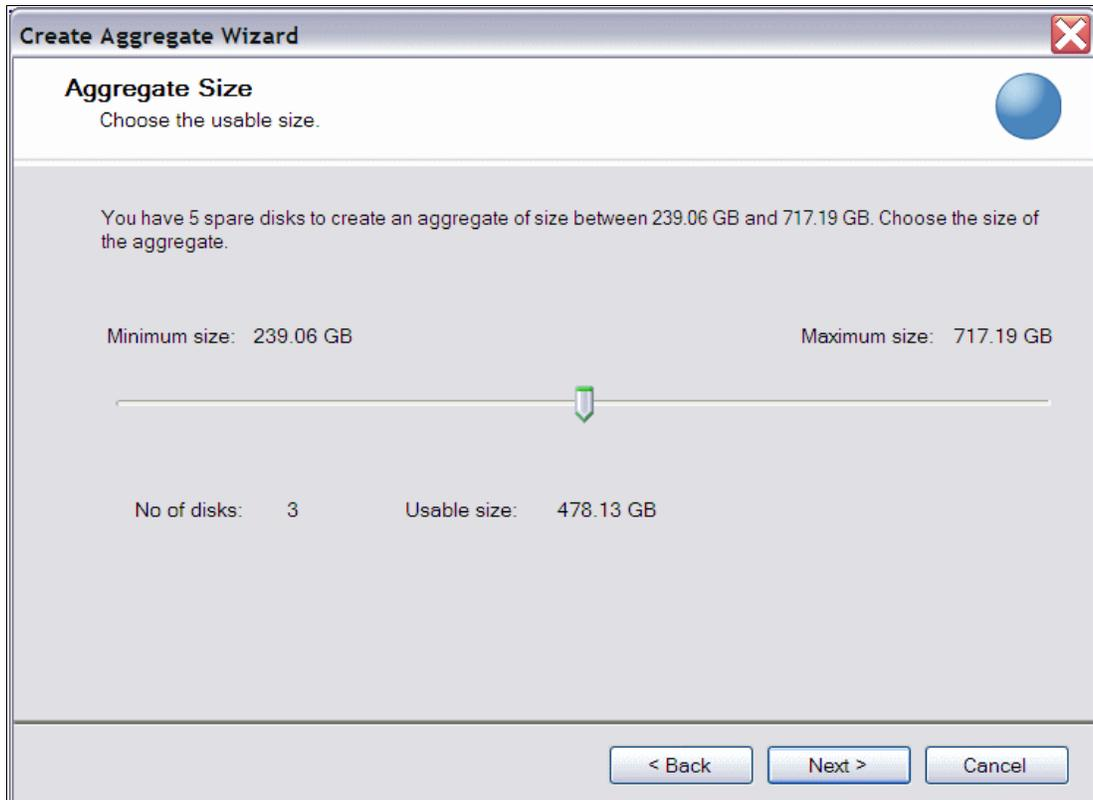

Figure 7-6 Aggregate size
3. Specify the aggregate size on the next panel (Figure 7-6). Review the available options displayed by the wizard, then make your selection by sliding the pointer on the capacity scale and check that the number of drives is correct. Click **Next**.